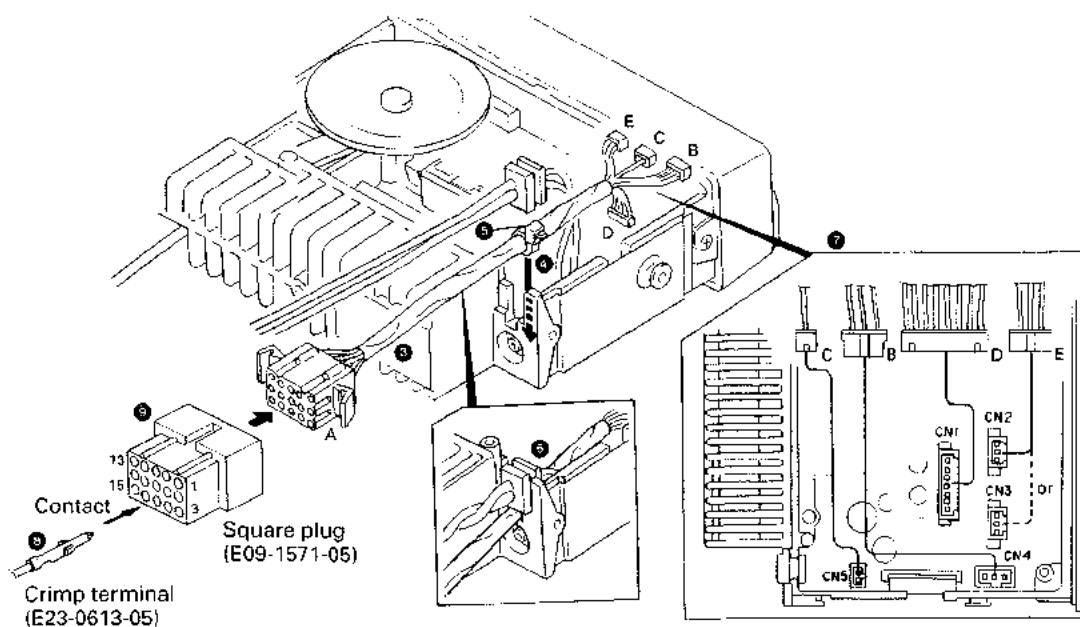

Fig. 8
1. Remove the upper and lower halves of the transceiver case, and lift the DC cord bushing (①) from the chassis.
2. Remove the pad (②).
3. Insert the KCT-19 cable (③) into the chassis (④). The wire harness band (⑤) must be inside the chassis.
4. Relocate the DC cord bushing in the chassis (⑥).
5. Connect the KCT-19 to the TX-RX unit (A/2) as shown in Figure 8 (⑦).
6. Connect the KCT-19 to the external accessory by inserting the crimp terminal (⑧) into the square plug (⑨), both of which are supplied with the KCT-19.